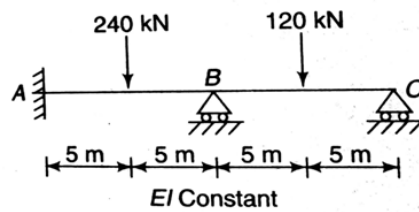

Figure 9
7. Analyse the continuous beam shown in Figure 9 using stiffness method.